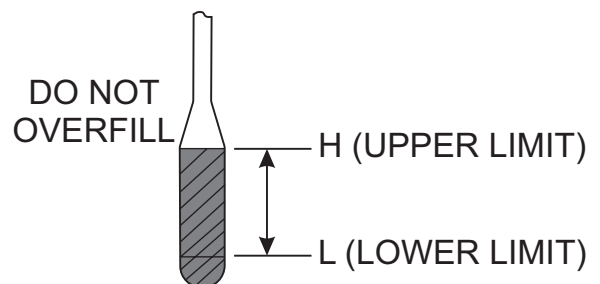

Figure 67. Dipstick Engine Oil Level
3. Determine if engine oil is low. Oil level should be between the upper and lower limit (Figure 67) on the dipstick.